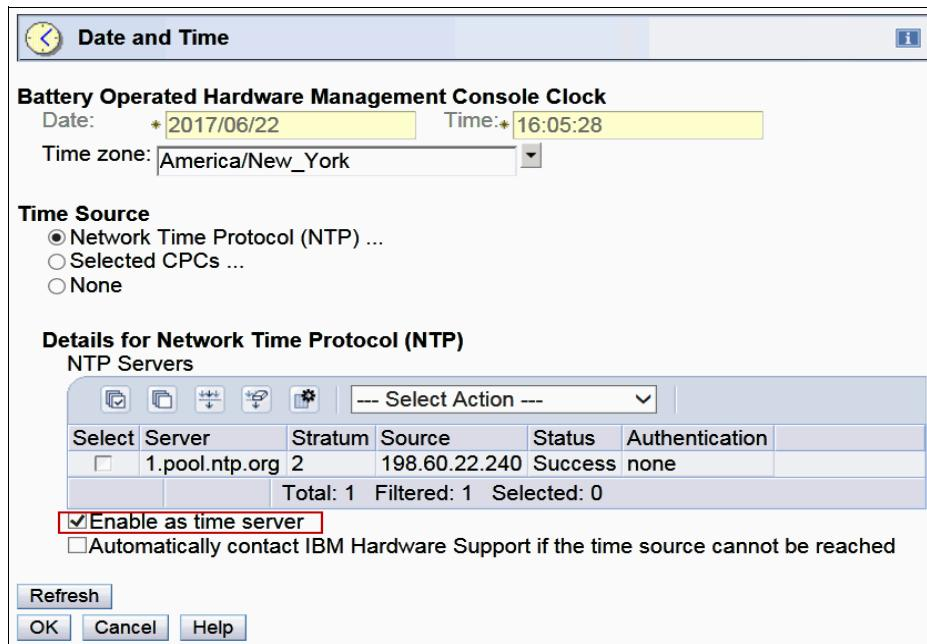

Figure 8-9 Configuring as NTP server
- After NTP Servers have been successfully added to the HMC, the **Customize Console Date and Time** window looks similar to Figure 8-9. Select **Enable as time server** and click **OK** (Figure 8-9).